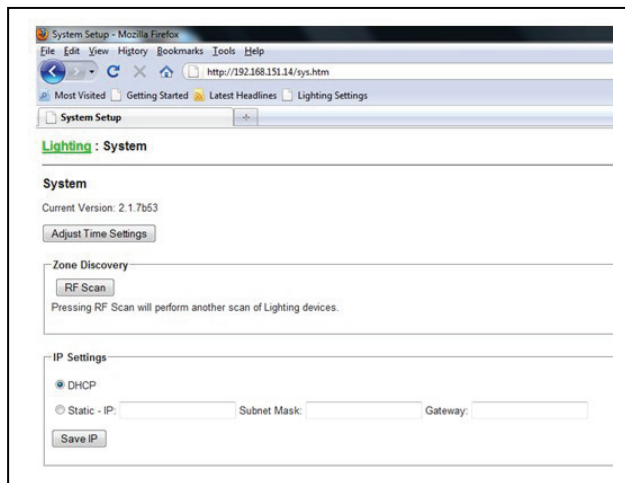

Figure 3
- A. Using a PC Browser the user can access the Setup Application by entering the IP address shown on the front panel Display. The Setup Application provides the ability to select for customization “System”, “Zones”, “Collections”, “Scenes”, or “Events”. If you select “System”, you should see a screen similar to the one shown in **Figure 3**.